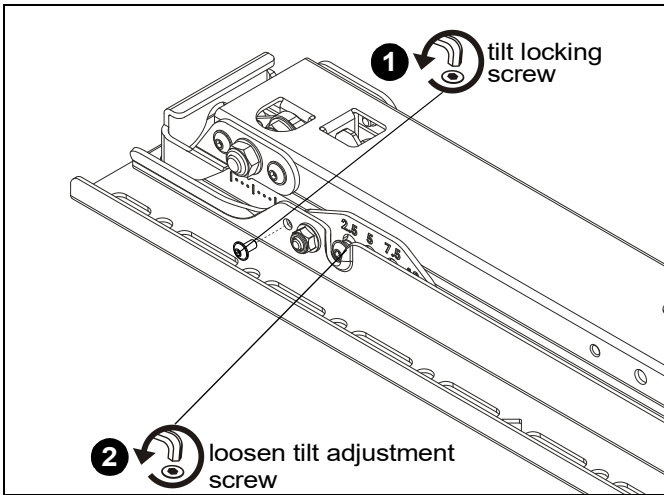

Figure 24
1. With display removed from mount, remove home tilt locking screws from interface brackets (A and B). (See Figure 24)
2. Loosen tilt adjustment screws on interface brackets (A and B). (See Figure 24)